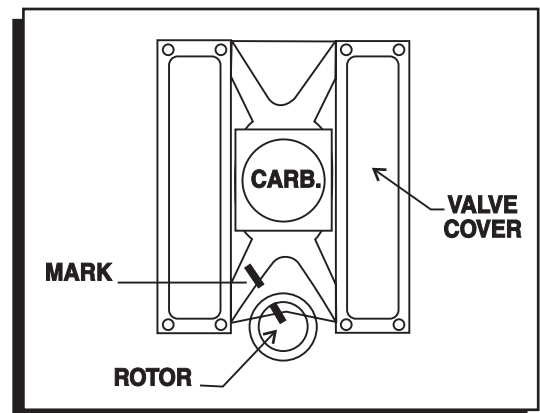

Figure 1 Marking the Position of the Rotor Tip.
2. Before removing the rotor, position it in a way that its location can be noted. Mark the position of the rotor tip then remove the rotor (Figure 1).